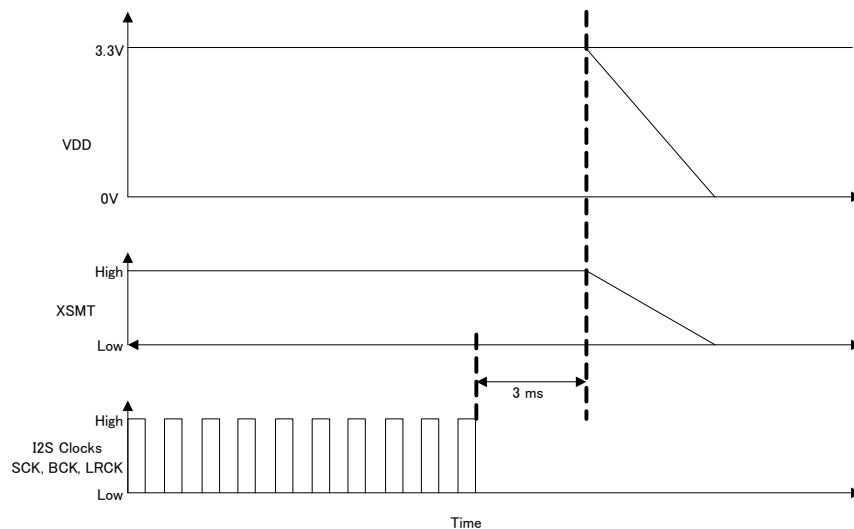

Figure 37. Stop I²C Clocks
2. Stop I²S clocks (SCK, BCK, LRCK) 3 ms before powerdown as shown in Figure 37.